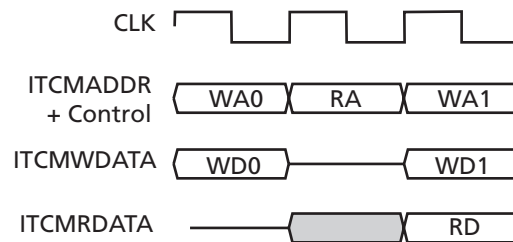

Figure 3-2 · ITCM Signal Timings
Because reads are speculatively fetched from TCMs, Device and Strongly-Ordered memory types such as FIFOs in TCM space are not supported. The processor does not support wait states for the memory interfaces. Figure 3-2 shows the signal timings for ITCM. The DTCM signal timings are the same as ITCM signal timings.
The write address, WA0, and write data, WD0, are presented in the same cycle. The Read Address (RA) is presented in one cycle, and the memory generates the Read Data (RD) in the next cycle. The sequence that Figure 3-2 shows is only possible on ITCM, where the RA read is an instruction fetch, and WA1 write is the product of a store instruction. The WA0-RA sequence is possible on DTCM.